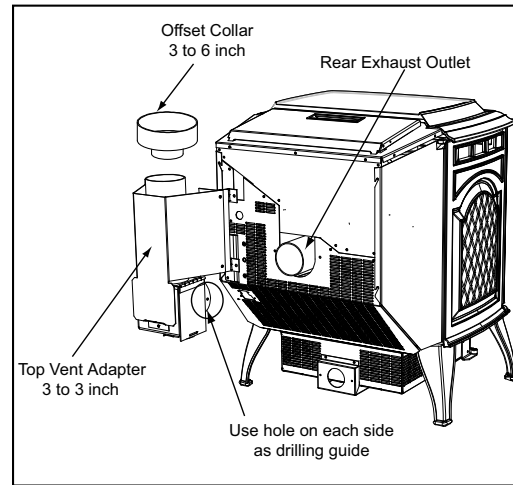

Figure 18.4
1. Put a layer of high temperature silicone on the 3 inch (76mm) rearexhaust outlet. **Figure 18.4**
2. Slide the top vent adapter onto the rear exhaust outlet and adjust the assembly to a vertical position. **Figure 18.4**
3. Drill 4 holes with #26 drill bit (provided) into the back of the appliance using the outer shield as a pattern (make sure the assembly is vertical). **Figure 18.4**
1. Put a layer of high temperature silicone on the 3 inch (76mm) exhaust outlet. **Figure 18.4**